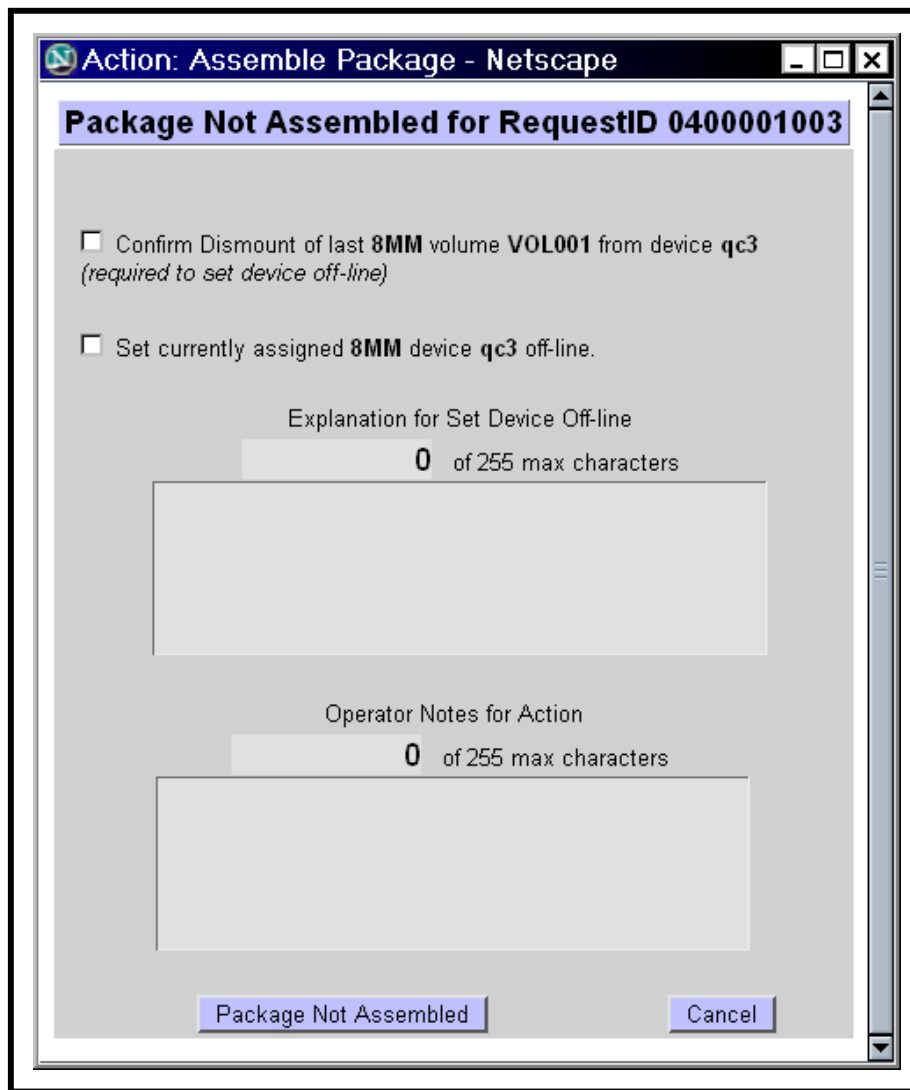

Figure 102. Package Not Assembled Page
The **Package Not Assembled** page (Figure 102) provides the full-capability operator with a means of indicating that the package was **not** assembled for shipment. The full-capability operator has the option of annotating the action.
- A **Package Not Assembled** dialogue box (Figure 102) is displayed.